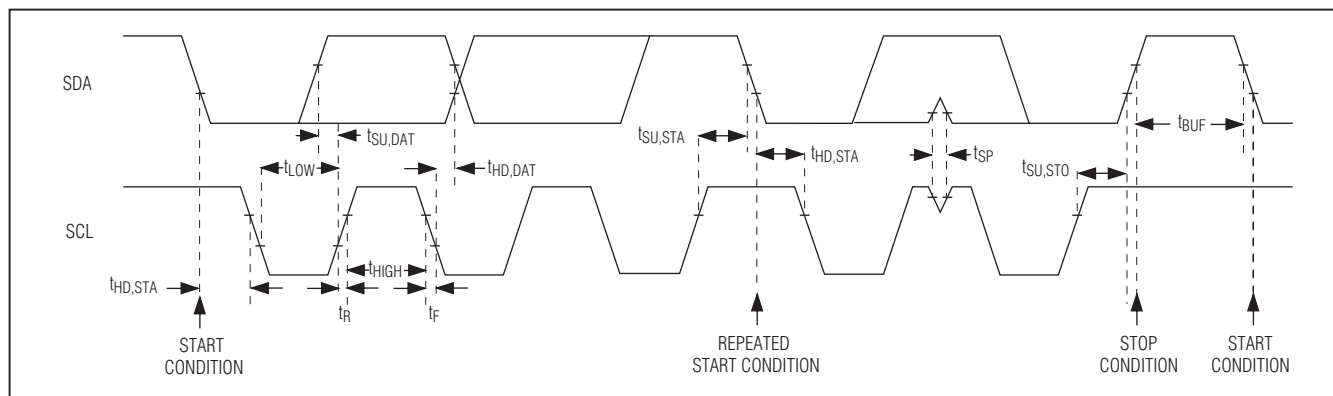

Figure 10. I2C Interface Timing Diagram
The IC features an I2C/SMBus™-compatible, 2-wire serial interface consisting of a serial-data line (SDA) and a serial-clock line (SCL). SDA and SCL facilitate communication between the IC and the master at clock rates up to 400kHz. Figure 10 shows the 2-wire interface timing diagram. The master generates SCL and initiates data transfer on the bus. The master device writes data to the IC by transmitting the proper slave address followed by the register address and then the data word. Each transmit sequence is framed by a START (S) or REPEATED START (Sr) condition and a STOP (P) condition. Each word transmitted to the IC is 8 bits long and is followed by an acknowledge clock pulse. A master reading data from the IC transmits the proper slave address followed by a series of nine SCL pulses. The IC transmits data on SDA in sync with the master-generated SCL pulses. The master acknowledges receipt of each byte of data. Each read sequence is framed by a START or REPEATED START condition, a not acknowledge, and a STOP condition. SDA operates as both an input and an open-drain output. A pullup resistor, typically greater than 500Ω, is required on SDA. SCL operates only as an input. A pullup resistor, typically greater than 500Ω, is required on SCL if there are multiple masters on the bus, or if the single master has an open-drain SCL output. Series resistors in line with SDA and SCL are optional. Series resistors protect the digital inputs of the IC from high voltage spikes on the bus lines, and minimize crosstalk and undershoot of the bus signals.